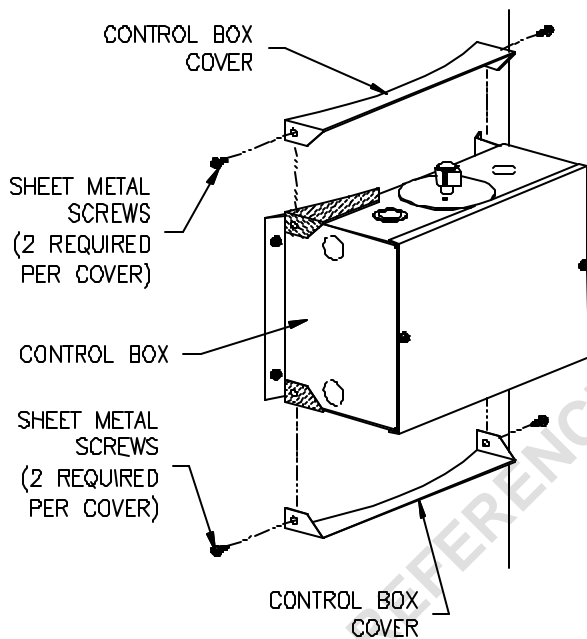

Figure 5
7. When all leg extensions have been assembled to legs, attached control box covers to control using sheet metal screws. Two (2) covers are required. Attached one (1) to topside of box and One (1) to bottom side of box (**see Figure 5**).